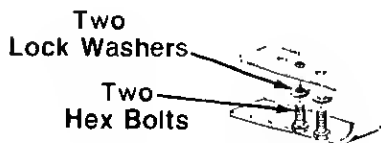

FIGURE 14.
1. The seat may be adjusted to two different positions. Select desired position and secure to seat spring with two hex bolts and lock washers. See figure 14.